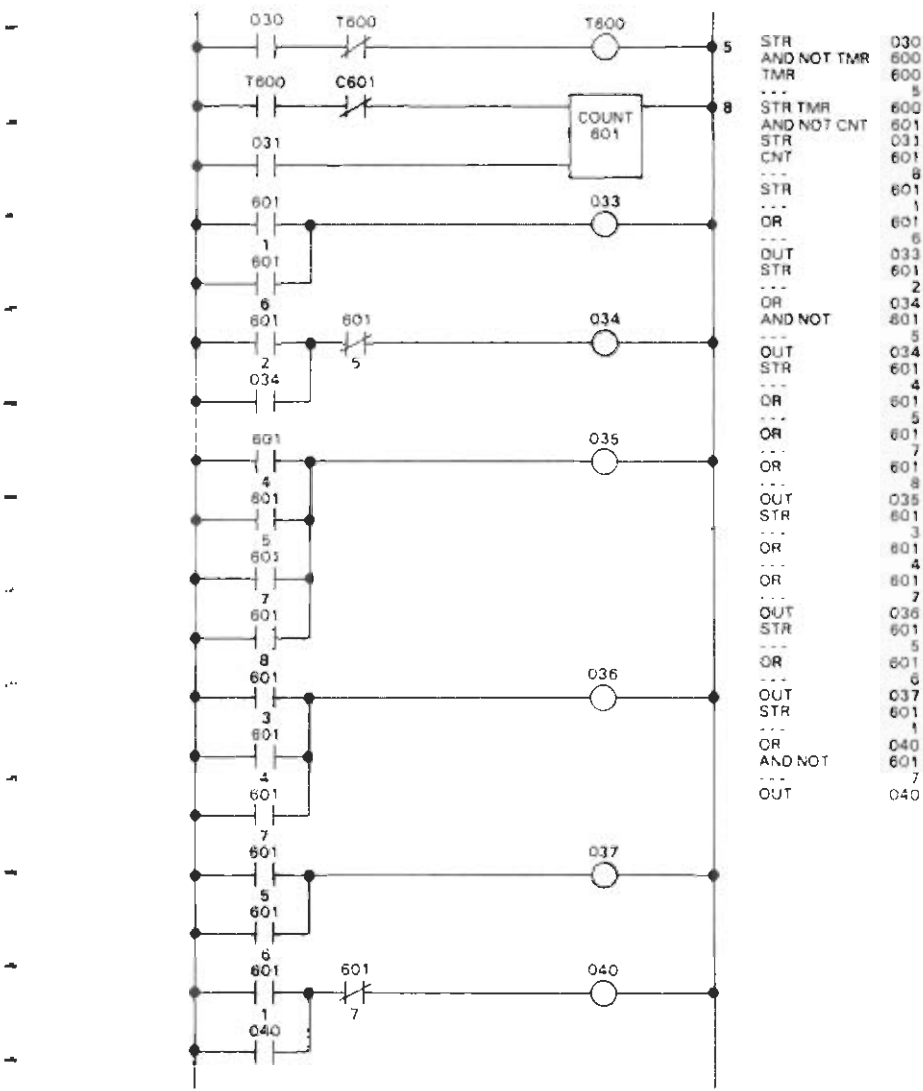

Figure 5.21 EXAMPLE OF SEQUENCER LOGIC
To drive the sequencer (Figure 5.21), a timer (600) is entered to reset itself every 5 seconds. Input 030 is used to control the sequencer, which will not be incremented except when this input is energized. When energized, timer 600 will produce one pulse every 5 seconds. Counter 601 increments its count once each pulse, stepping the sequencer. Input 031 will reset the sequencer to home (zero) whenever it is energized, regardless of the count or position of the sequencer. The counter will count up to eight and then stop waiting for a reset signal.